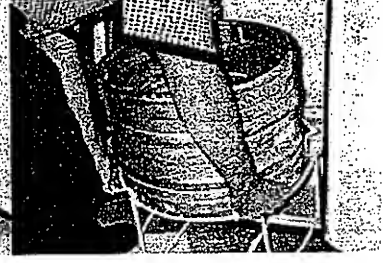

Fig. 6
- To place the beer keg and stand inside the cabinet, brace your knees behind the keg stand. Lift the front of the keg just enough so the front edge of the stand is resting on the front edge of the Beer Dispenser bottom cabinet. (See Figure 6)